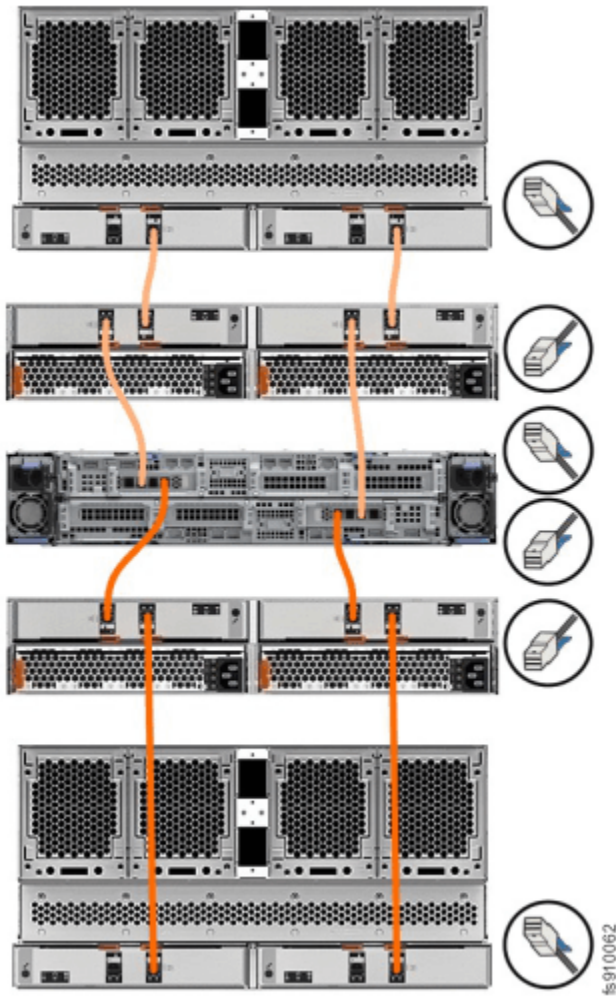

Figure 65. Connecting the SAS cables to control enclosure
- The FlashSystem models support 4-port SAS interface adapters. However, only ports 1 and 3 are used for SAS connections, as Figure 65 on page 100 shows.
- See “Enclosure location guidelines” on page 58 for the number and type of expansion enclosures that can be chained to SAS port 1 and SAS port 3 of a node canister. The expansion enclosures in this chain must be installed below the control enclosure (as shown in Figure 65 on page 100).
- Figure 65 on page 100 shows an example configuration of a control enclosure that is connected to two SAS chains.
- Figure 65 on page 100 is a generic cabling diagram intended to illustrate how to cable the different types of expansion enclosure. Some systems do not allow for a mixture of expansion enclosure types in the same chain. See Chapter 4, “Expansion enclosures,” on page 43 for details on the supported expansion enclosures for your specific system model.
Using the supplied SAS cables, connect the control enclosure to the expansion enclosure at rack position 1, as shown in Figure 65 on page 100.
To add further expansion enclosures, continue to connect the expansion canisters as shown in Figure 65 on page 100.